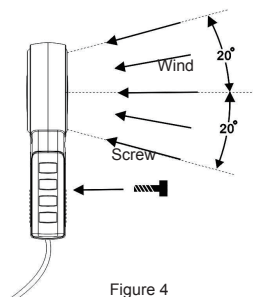

Figure 4
Measuring Air Velocity (Air Temperature)(See Figure 4)
4. As shown in Figure 4, place the anemoscope in a direction as marked on inner side of the fan. And secure the handle with a screw (the user needs to buy the screw on his/her own).
6. To obtain a accurate reading, please hold the anemoscope horizontally as in the Figure 4, the angle deviation should be <20°.